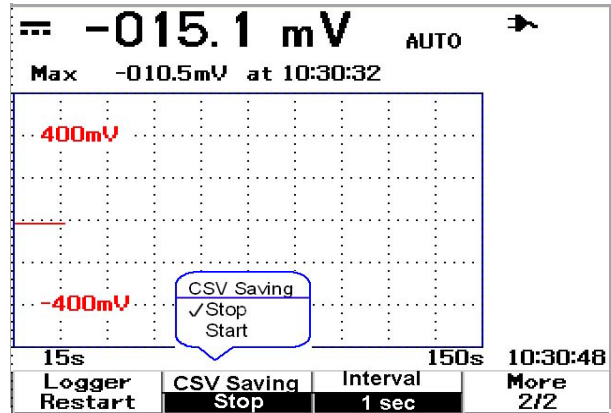

Figure 5-3 Enabling the CSV saving function
- 3 To enable the CSV saving funtion, press F2 to toggle between start and stop options (refer to Figure 5-3 below). You can save up to 500 kilobytes of data.